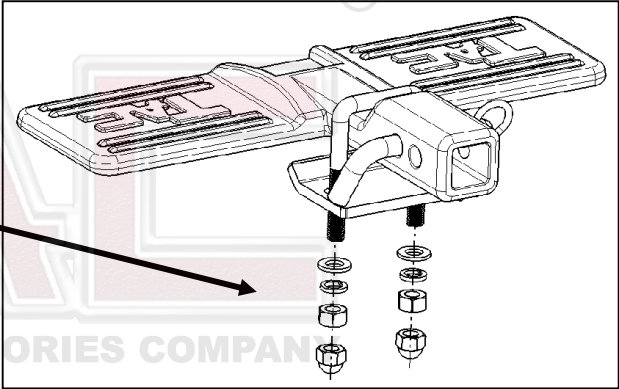

Fig 2
- Select (1) U-Bolt and (1) L-Shaped Clamping Bracket. Place the U-Bolt over the step insert. Attach L-Bracket, the flat side facing the vehicle, with (2) 12mm Flat Washers and (2) 12mm Lock Washers and (2) 12mm Hex Nuts and (2) 12mm Ball Nuts, **(Figure 2)**.